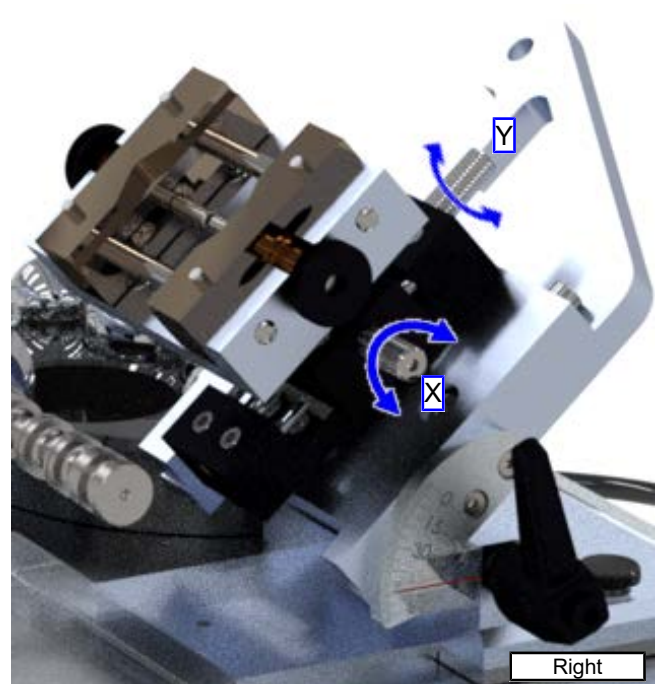

Fig. 66: Moving X and/or Y axis/es of stage
15. Remove the sample from the sample holder jaws. If manual XY stage is mounted, the X and/or Y position(s) can be changed (Fig. 66 [▶ 25]) before starting a new measurement with the same setup: